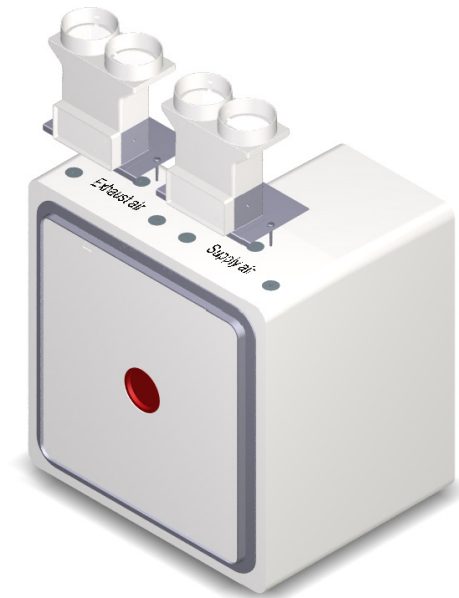

Fig. 2: M-WRG-M/MB-FR75(63)/2
- M-WRG-M/MB-FR75(63)/2 with two flexible pipe connections for exhaust air **and** supply air (see Fig. 2)